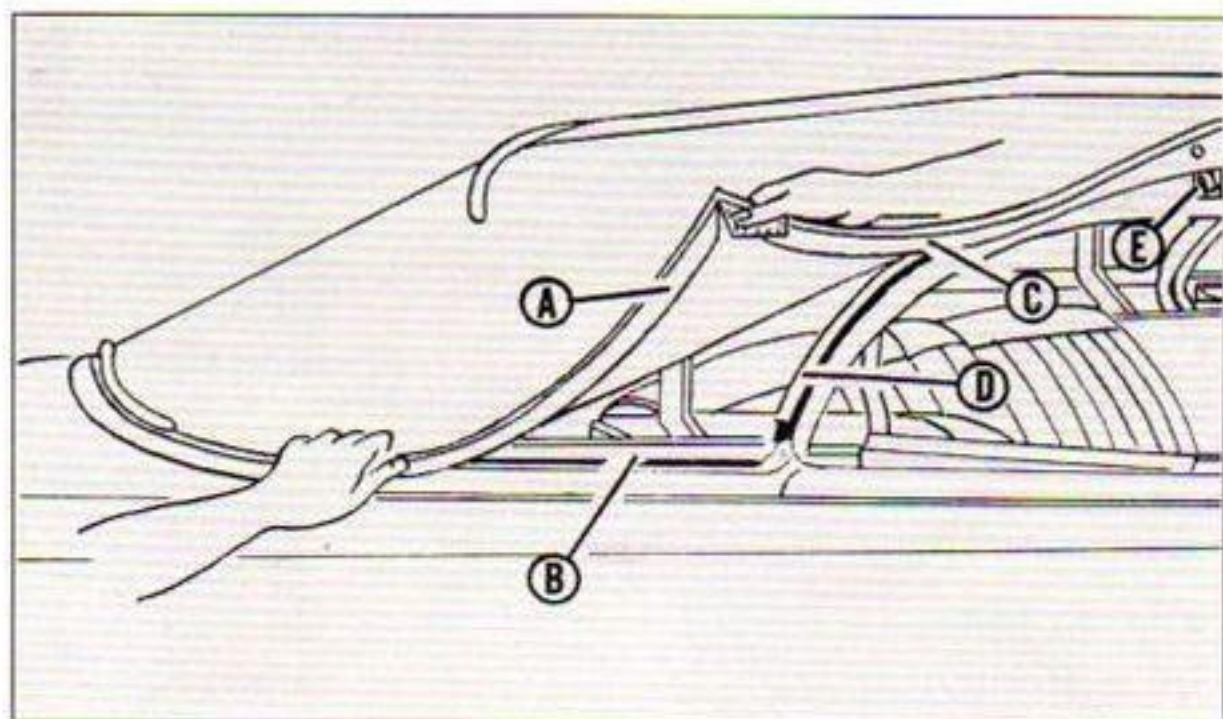

Figure 31
5. With top secured at windshield header, fasten the side quarters of the top by engaging flap (A) under channel (B), Figure 31, starting at the rear end. Continuing forward, enter flap (C) un-
- der curved channel (D) and work upward until flap is in place for its full length.
6. Engage the fasteners (E) in the slides on the bow above the door windows.